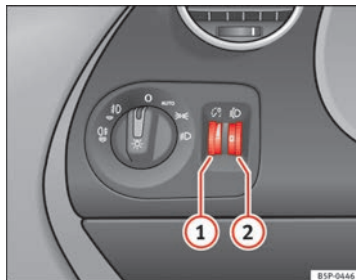

Fig. 73 Dash panel: regulation for instrument and switch illumination and headlight range control
When the headlights are switched on, the brightness of the instruments and switch lighting can be regulated to suit your requirements by turning the thumb wheel ⇒ fig. 73 ①.